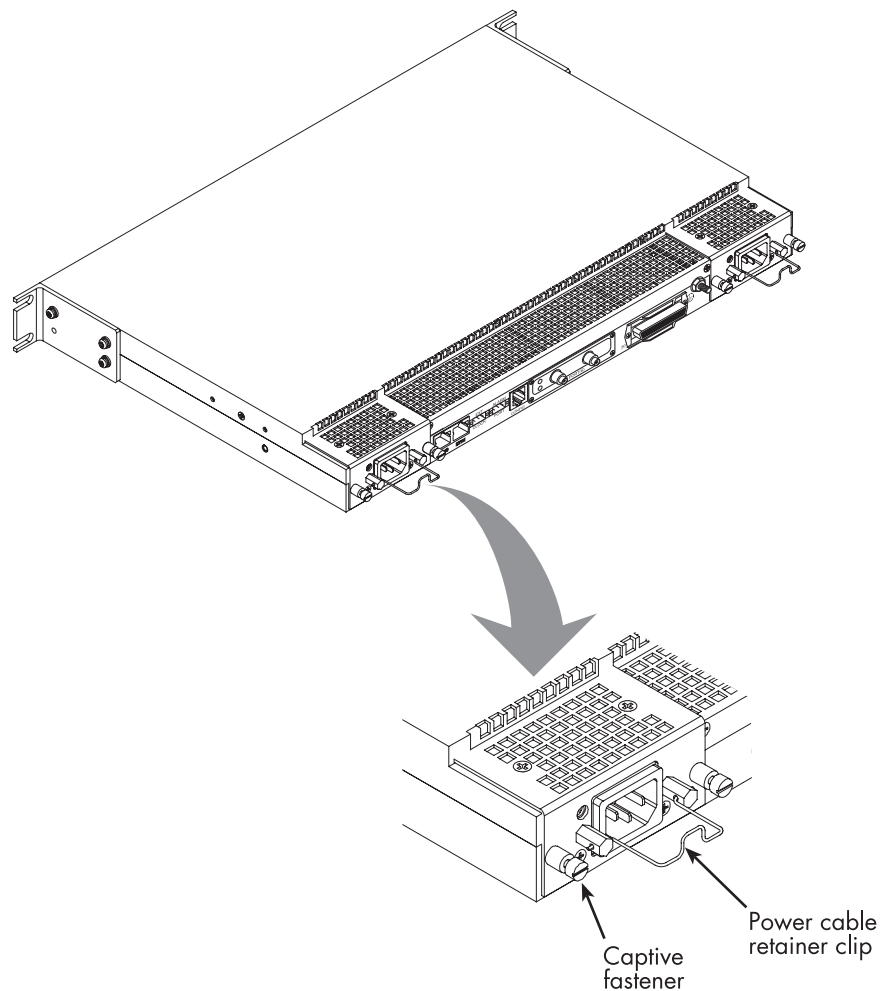

Figure 19. Captive fasteners and power cable retainer clip locations
1. At the malfunctioning power supply, rotate the power cable retaining clip (see figure 19) so it is no longer attached to the power cord.
- Using a flat-tip screwdriver, loosen the two captive fasteners (see figure 19) enough so they are no longer connecting the power supply to the IpDSLAM chassis.